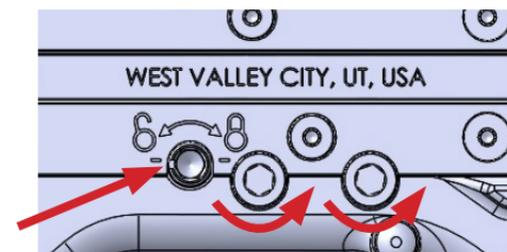

Fig. a-4
- Ensure the barrel lock screw is in the "Unlocked" position, and the two barrel retention screws are loose. (Fig. a-4)